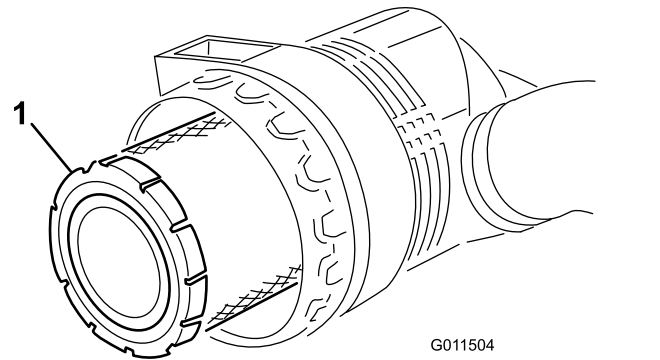

Figure 74
4. Remove and replace the primary filter (Figure 74).